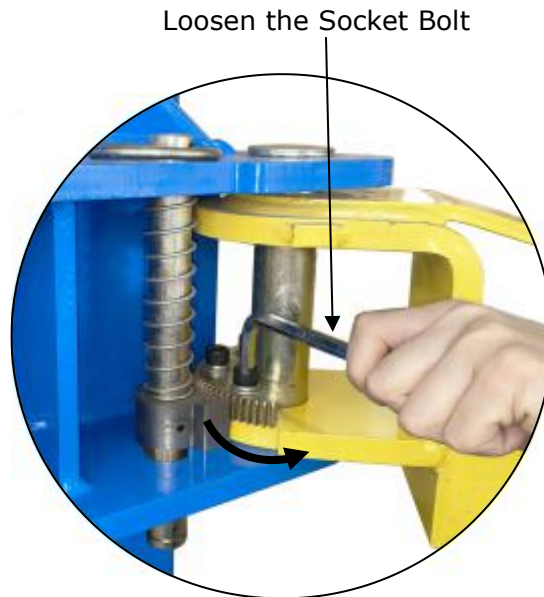

Fig. 36
2. Lowering the carriages down to the lowest position, then use the 10# socket head wrench to loosen the socket bolt (See Fig. 36).